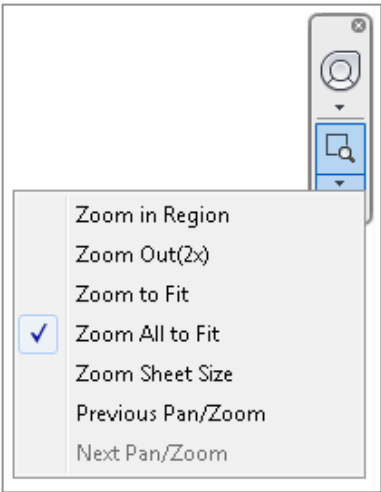

FIGURE 1.17 Use Zoom All To Fit when you’re using tiled windows.
4. In either view, find the Navigation bar, click the drop-down arrow under the Zoom icon, and then click Zoom All To Fit, as shown in Figure 1.17.